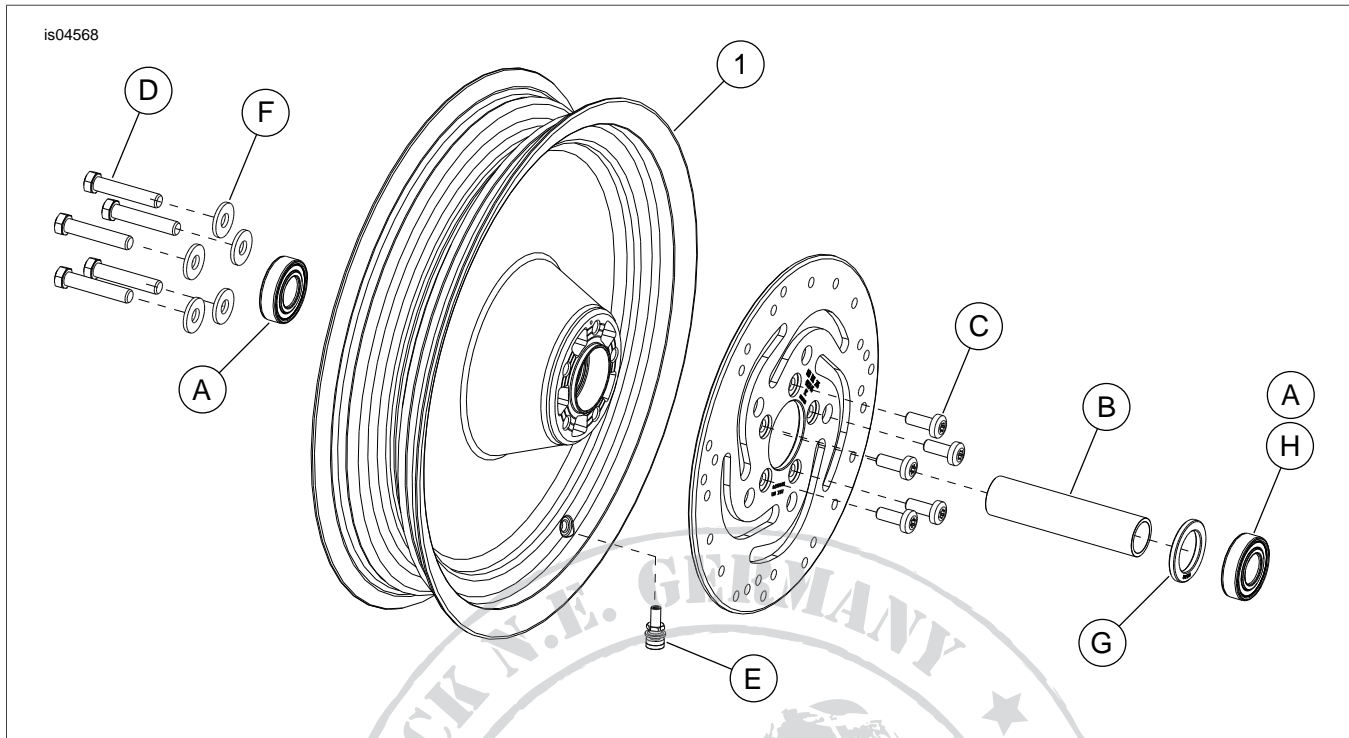

Figure 1. Service Parts: Rear Disc Wheels (16 Inch Shown)
See Figure 1 and Service Parts Tables.
2. See Figure 1. Install valve stem assembly (E) on wheel. Refer to TIRES in Service Manual.